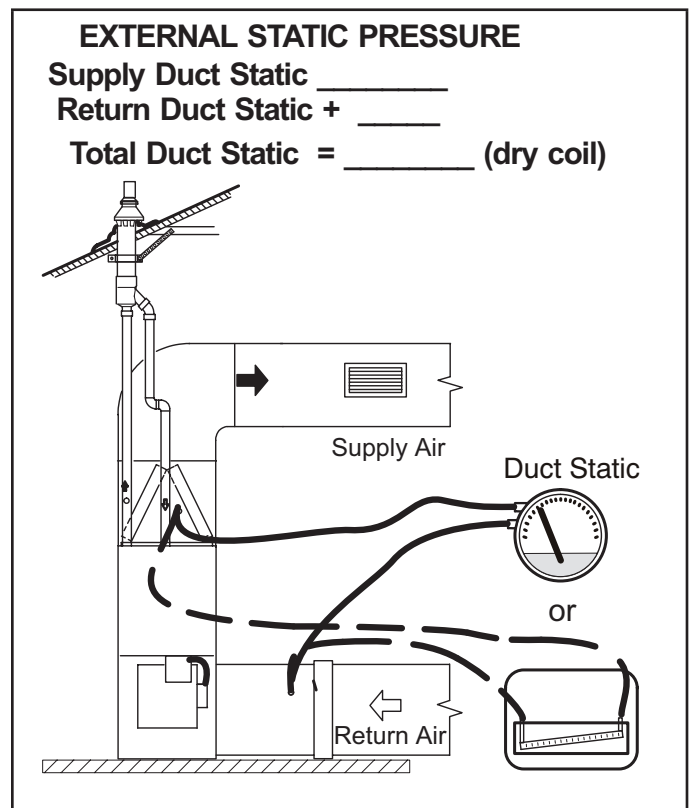

FIGURE 60
- 1 - Tap locations shown in FIGURE 60.